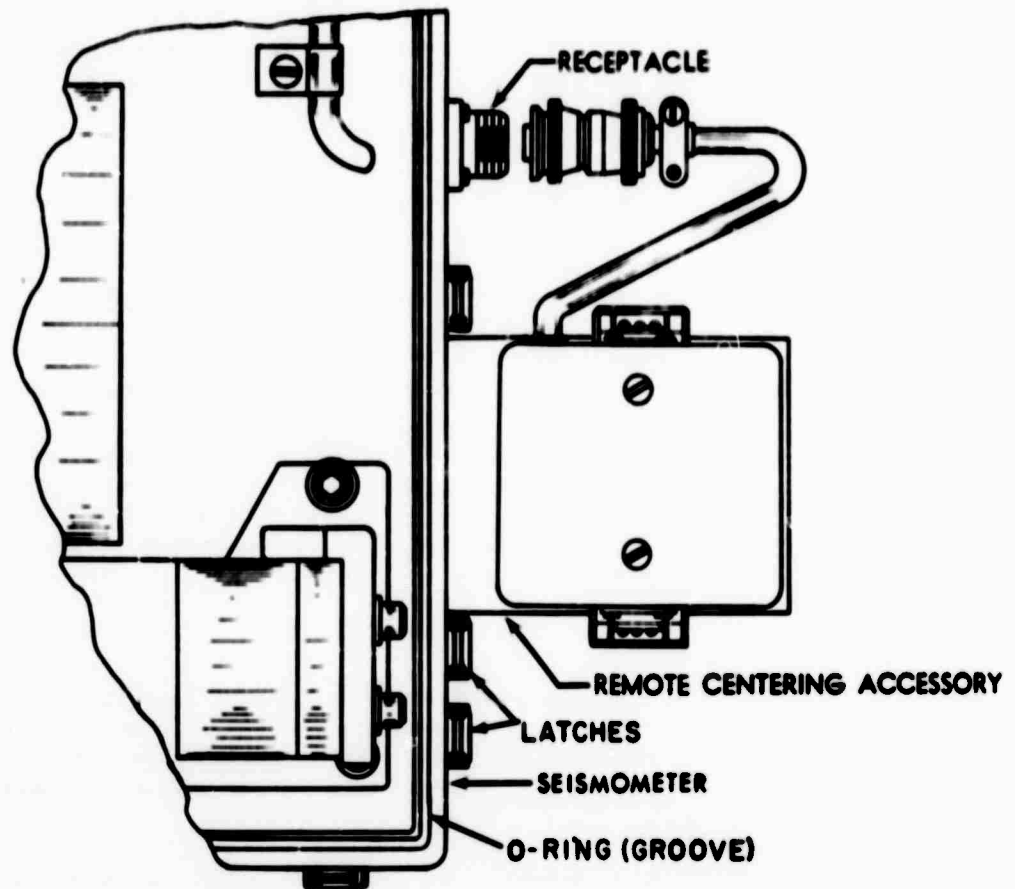

Figure 2-1. Installation of Remote Centering Accessory
- c. Attach Remote Centering Accessory to base of seismometer as shown in figure 2-1. Secure accessory to base by installing hex screw (supplied) into hole previously occupied by leveling screw.